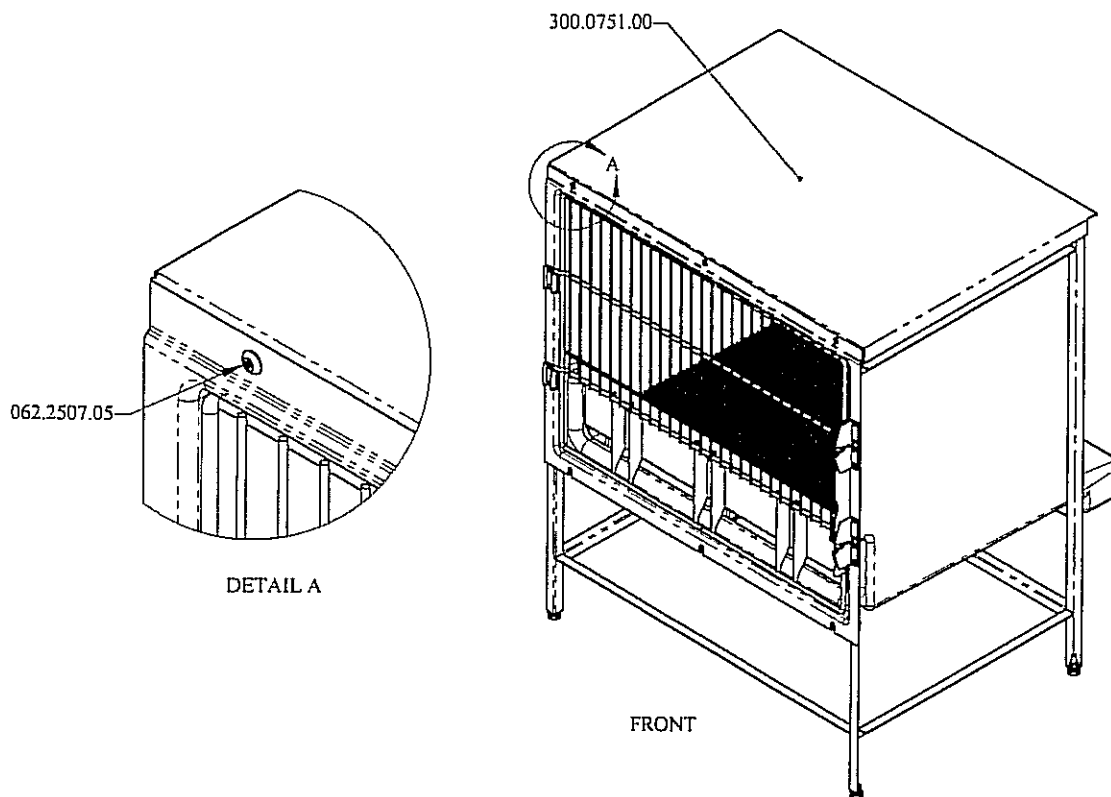

Figure 1
By using the existing three (3) .250-20 x .750 Truss Head Phillips Screws (062.2507.05) removed in Figure 1 and one (1) Horizontal Trim (300.0866.00), assemble as shown. Trim should be oriented as shown in side view of Horizontal Trim (300.0866.00).
Using the existing Horizontal Back Top Angle (300.0744.00), that was removed in Figure 1, place one (1) .250-20 x .750 Truss Head Phillips Screw (062.2507.05) and one (1) .250-20 Hex Nylock Nut (064.2500.02) through the hole located on the end of the part, through the hole located on the Upper Parvo Tie Down Clip (300.0865.00), as shown in Detail F. Repeat for other end.